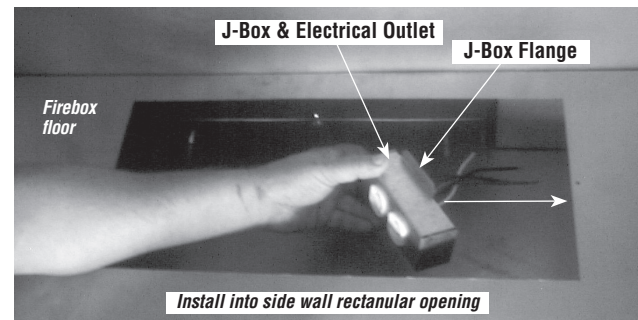

Figure 18 - Model Atlas42ZP2 Shown
Step 2. Remove the rectangular knock-out (for J-Box) on the right side of unit (see **Figure 7** for location). Install the Junction Box & Electrical outlet below the firebox floor into the rectangular opening on the right side cabinet panel where you removed the knock-out (see **Figures 18 and 19**).
- Squeeze the J-Box flanges together to fit into the opening shown in **Figures 18 and 19**.